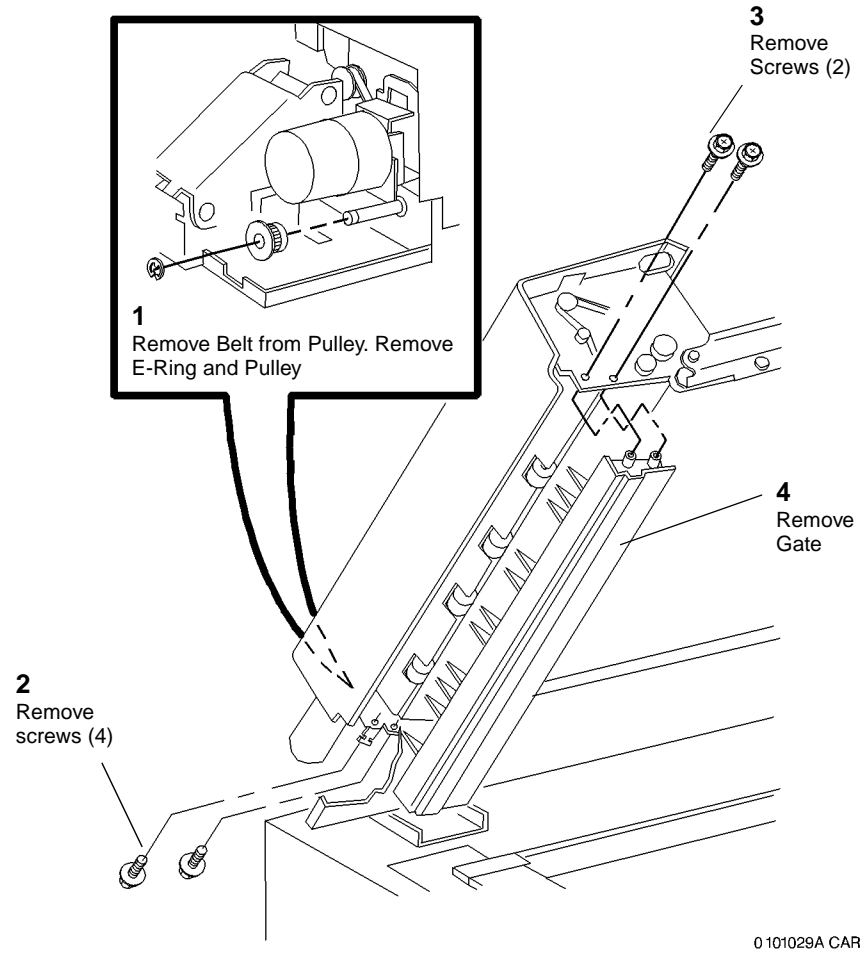

Figure 1 Preparing to remove the Gate
2. Preparing to remove the Gate (Figure 1).